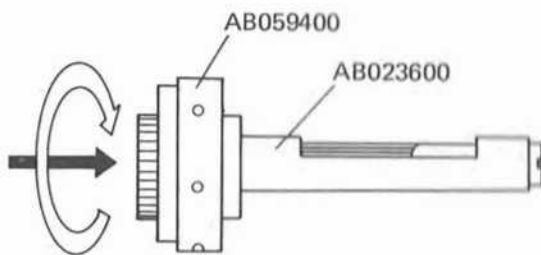

Fig. 3-15
a) Remove Tension Knob AB059400 by turning it counterclockwise as seen in the direction indicated by arrow in Fig. 3-15.